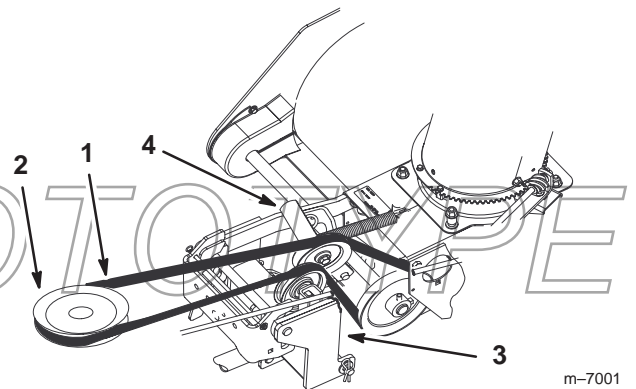

Figure 36
- Pull on the drive belt idler pulley to relax the belt tension and remove the drive belt from the tractor clutch (fig. 36).